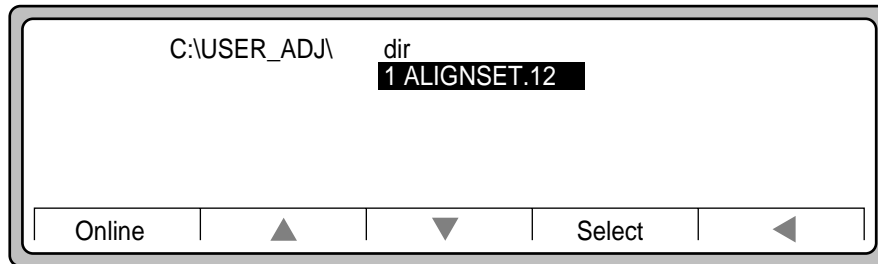

Figure 6-7 1 ALIGNSET.*
- The number 1 will appear in front of the ALIGNSET.* message, as shown in Figure 6-7.